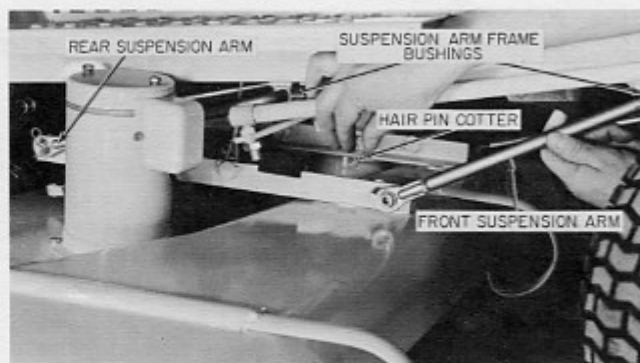
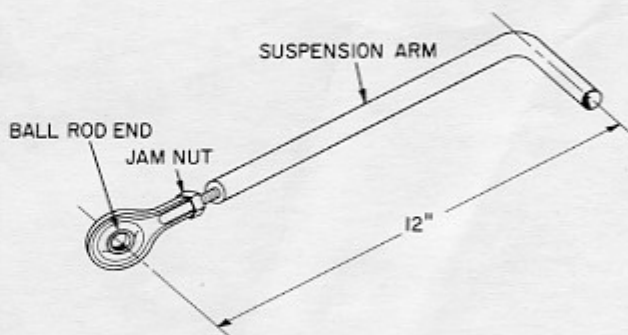

Figure 9
Figure 12
5. Insert all four suspension arms in their respective frame bushings so their lower ball rod ends lay on the mower deck near their mounting pins. (See Figure 9.) Do not readjust suspension arms. These are factory adjusted as shown in Figure 12.